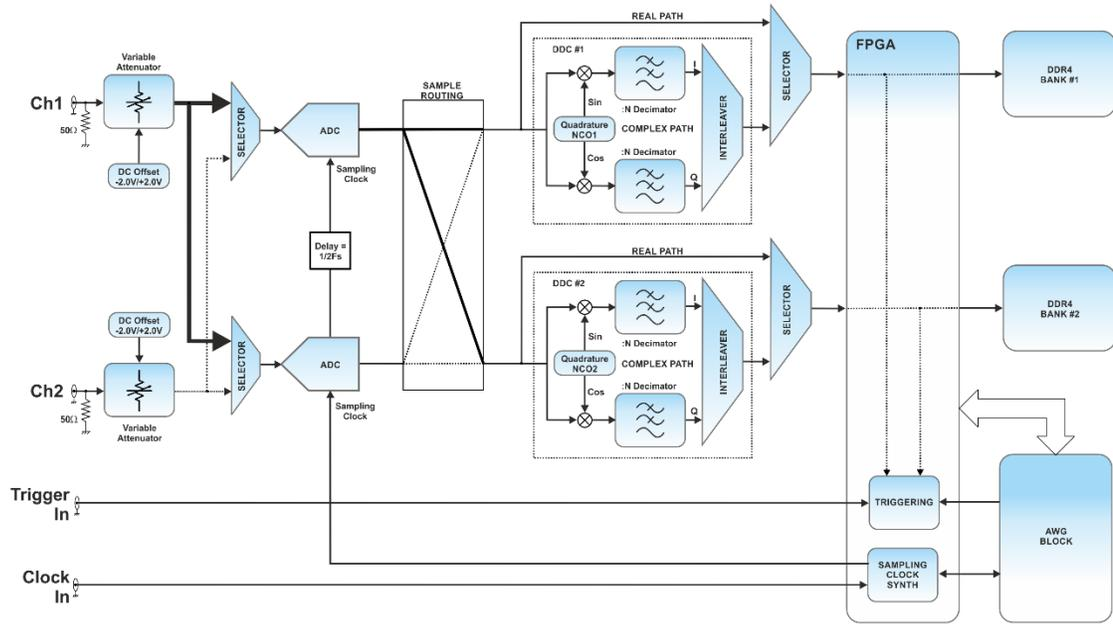

Figure 10.3 Digitizer Section Block Diagram for SINGLE Mode
- Single: In the single mode, only the odd numbered Digitizer channels are effective while sample rate can be set in the 1600MS/s – 5.4GS/s. The ADCs from both channels are combined in a single interleaved DAC effectively doubling the sampling rate. As acquisitions are handled internally as two acquisitions in parallel, acquired waveform lengths must be a multiple of 96 samples (Figure 10.3 Digitizer Section Block Diagram for SINGLE Mode).